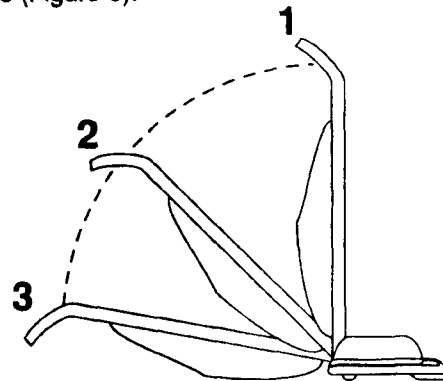

Figure 8
With the tip of your toe, release the handle lock located at the rear left side of the cleaner and move the handle to the desired position. (1) Upright when not in use. (2) Normal for sweeping. (3) Low when cleaning under low furniture (Figure 8).